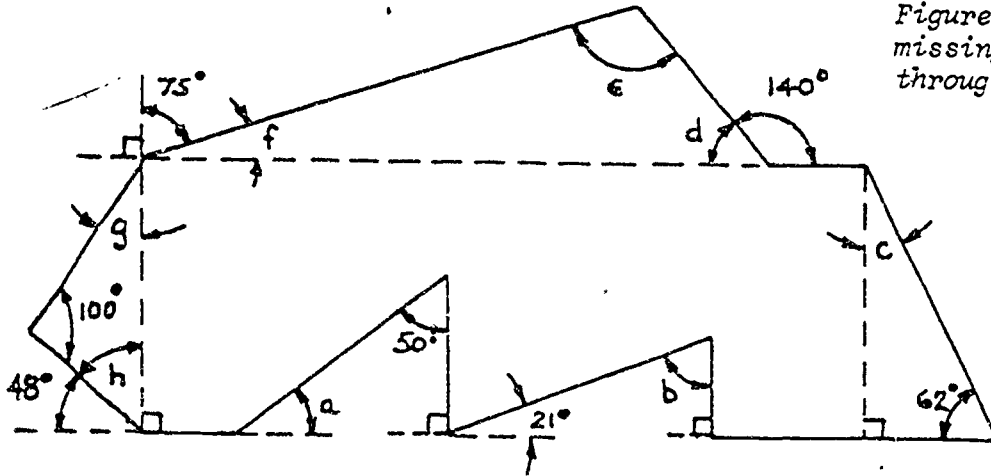

Figure 20: Find the missing angles, a through h.
5. Your supervisor gives you a rough sketch of a profile gage as shown in Figure 20. You are to calculate the missing angles. Find angles a, b, c, d, e, f, g and h.